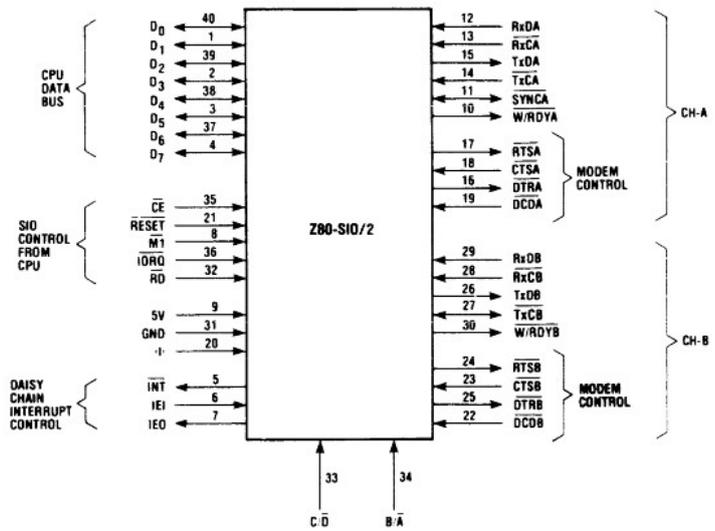

Figure 4. Z80-SIO/2 Pin Configuration
- Z80-SIO/2 sacrifices SYNCB and keeps TxCB, RxCB and DTRB (Fig. 4).